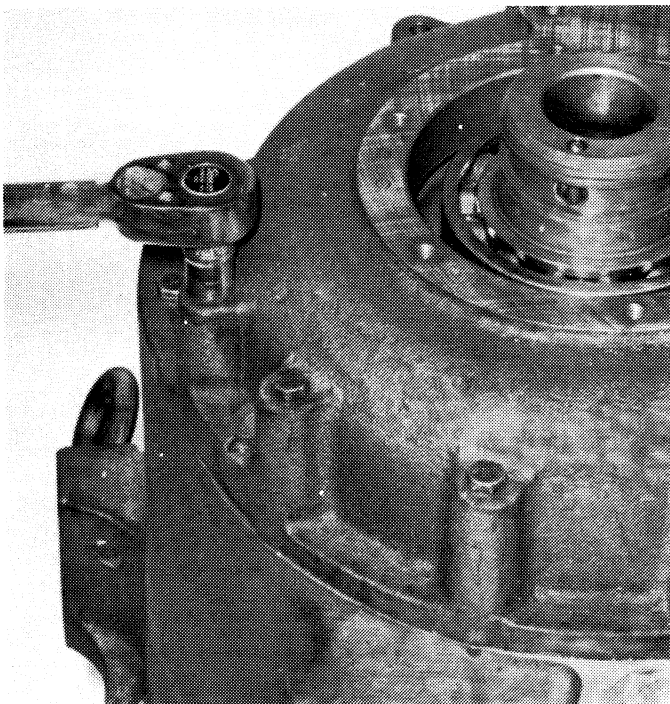

Figure 6-15. Removing or Installing Manifold.
10. Remove the hex-head screws from the manifold. See Figure 6-15.